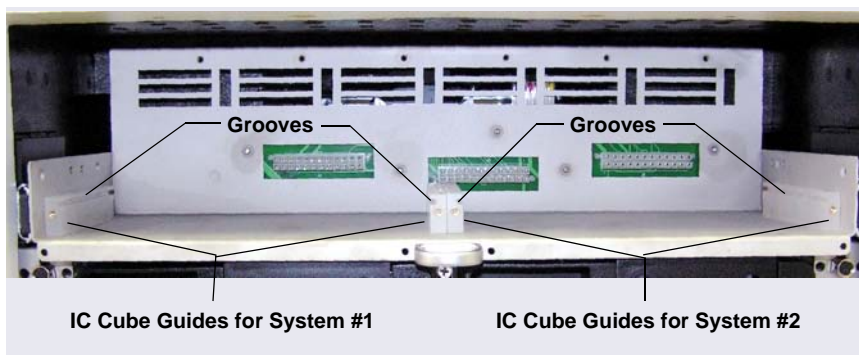
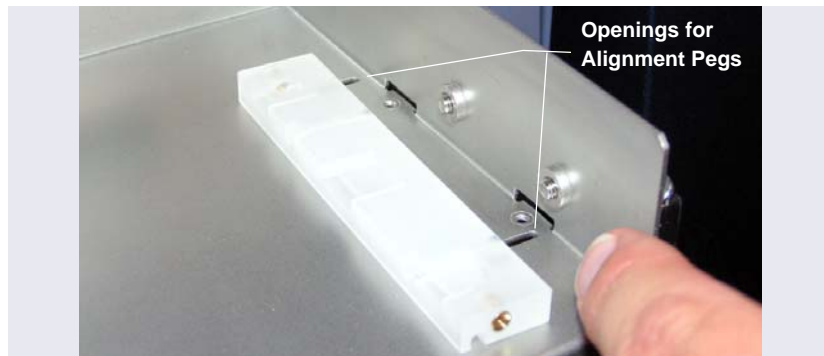

Figure B-29. IC Cube Guides Installed in DC Upper Compartment
Figure B-31. Openings for IC Cube Guide Alignment Pegs
5. For reference, Figure B-29 shows the completed installation of four guides (for two IC Cubes) installed in the upper compartment of the DC.
- b. Orient the guide with the grooved edge on top and facing in (toward the IC Cube mounting location) (see Figure B-29). Align the pegs with the openings on the bottom of the DC upper compartment tray. The openings for the guides on the outside edges of the tray are slotted (see Figure B-31). The openings for the guides in the center of the tray are round.